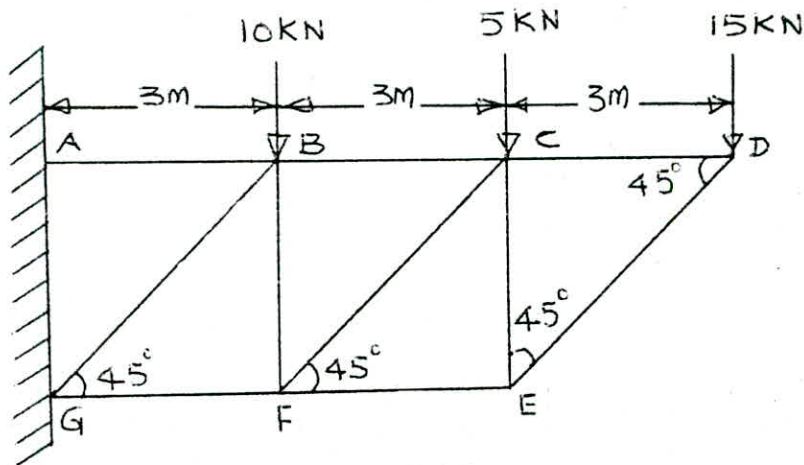

FIGURE-3
- (B) A T-section has a flange width of 250mm and thickness of 20mm. The overall depth of the section is 450mm and thickness of web is 20mm. Locate the centroidal position and determine the moment of inertia about XX and YY axes. 12
24. (A) Determine the magnitude and nature of forces in the members of truss shown in figure-3 by method of joints. Tabulate the results. 12